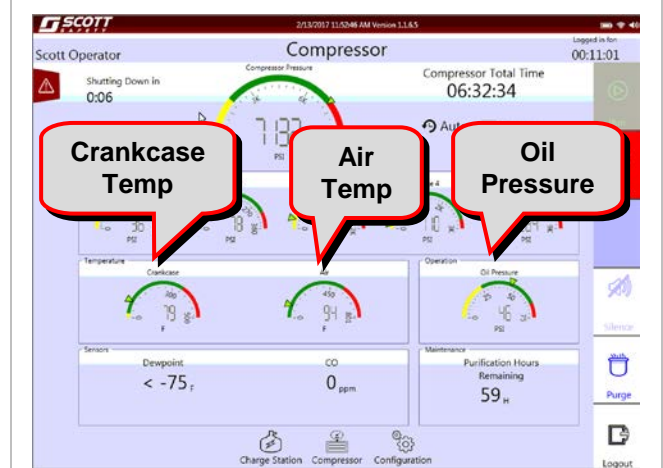

Figure 3.5-2: Other Compressor Information
2. The crankcase temperature gauge displays the current operating temperature of the compressor block. See Figure 3.5-2.
3. The air temperature gauge indicates the output temperature of the 5th stage. See Figure 3.5-2.